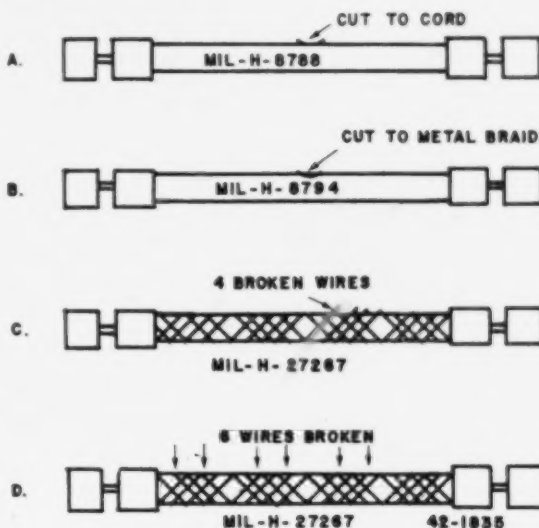

Figure 2-30. Objective 226, exercise 1.
- Using figure 2-30, select the illustration that depicts the hose within acceptable damage limits. Report your observations.